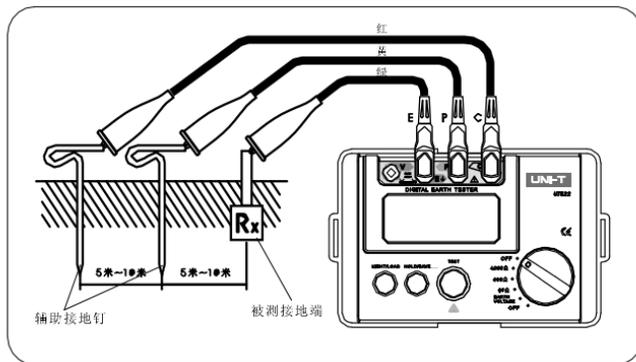

figure2
a. place 2 ground stakes in earth/dirt. Minimum distance between earth electrode(E), probe(P) and auxiliary earth (C) should be 5-10 meter apart, as below connection figure 2: